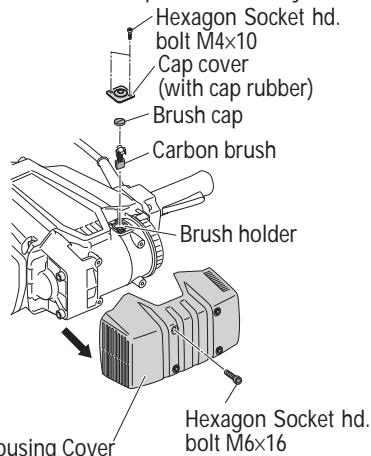

Fig. 10
**5. Replacing carbon brushes (Fig. 10)**